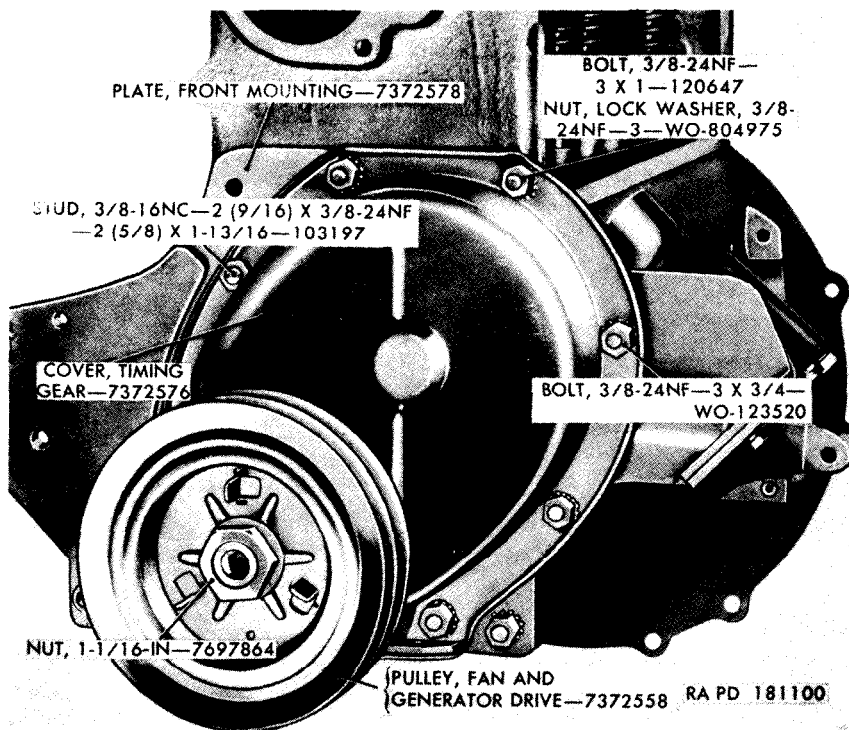

Figure 89. Timing gear cover, and fan and generator drive pulley.
b. Coat both sides of the timing gear cover gasket (AM, fig. 70) with liquid type gasket cement and install the cover and the gasket on the front end of the engine. Secure the cover in place with three $\frac{3}{8}$ -24NF-3 x $\frac{3}{4}$ bolts (fig. 89) and one $\frac{3}{8}$ -24NF-3 x 1 bolt. Use eight $\frac{3}{8}$ -24NF-3 lock washer nuts, four of which are used on the previously installed studs.